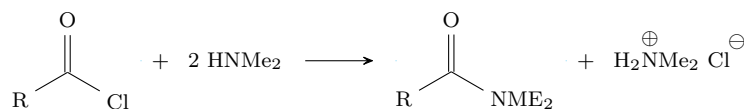

Figure 4.25: Acyl transfer: Acid chloride to amide.
- Recall that amide-bond formation is an incredibly useful driving force in other reactions (e.g., see Figures 4.25 & 4.33).